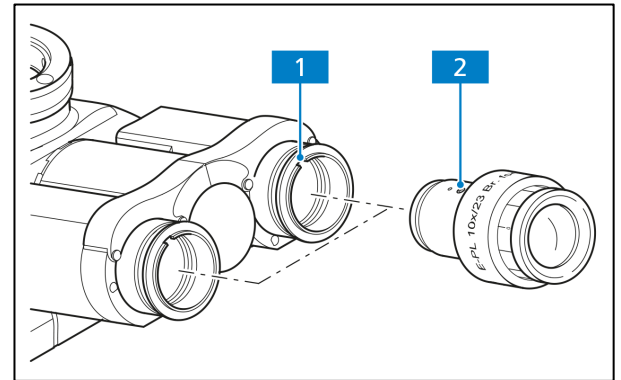

Fig. 3-5 Inserting the E-PL 10x/23 GW foc. Pol eyepieces into the binocular photo tube with upright image
- Insert the eyepiece into the binocular photo tube, fitting the locating screw (Fig. 3-5/2) into the tube's orientation groove (Fig. 3-5/1).